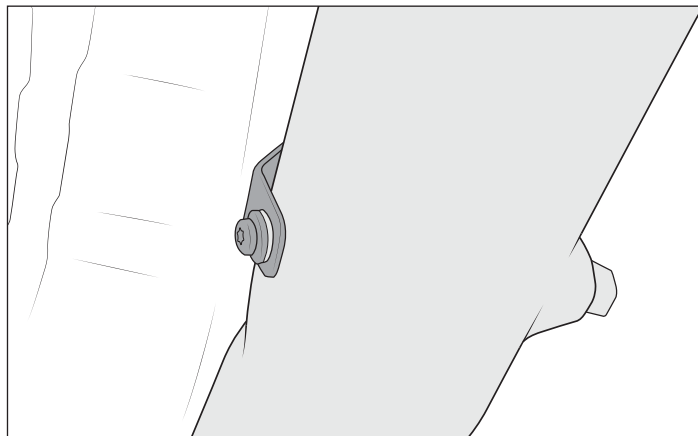

Figure 17
14. Install M6 Hex head bolt through the lower bracket into the AEV intake (fig. 17).